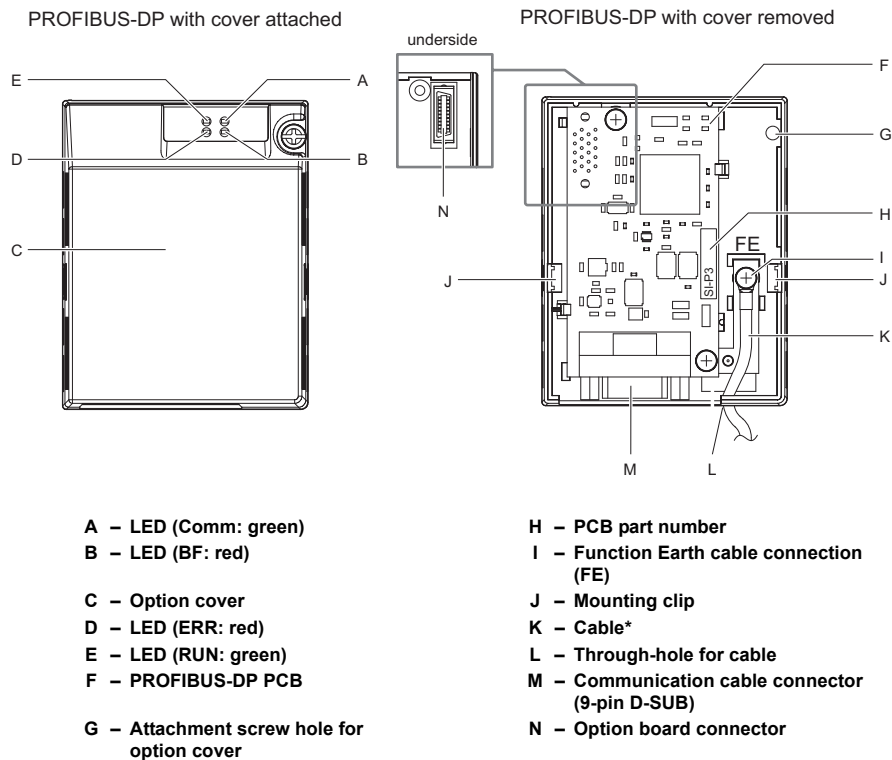

Figure 1 Option Unit
- Verify receipt of the correct model by checking the information on the PCB (see Figure 1).